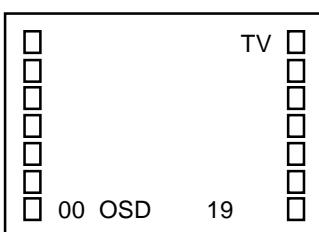

Fig. 1-1
1. In the condition of NO indication on the screen. Press the VOL. DOWN button on the set and the Channel button (9) on the remote control for more than 2 seconds to appear the adjustment mode on the screen as shown in Fig. 1-1.
3. Activate the adjustment mode display of Fig. 1-1 and press the channel button (01) on the remote control to select "CUT OFF".
4. Activate the adjustment mode display of Fig. 1-1 and press the channel button (10) on the remote control to select "R.BIAS".
3. Activate the adjustment mode display of Fig. 1-1 and press the channel button (22) on the remote control to select "TINT".
6. Activate the adjustment mode display of Fig. 1-1 and press the channel button (19) on the remote control to select "COL.CENT".